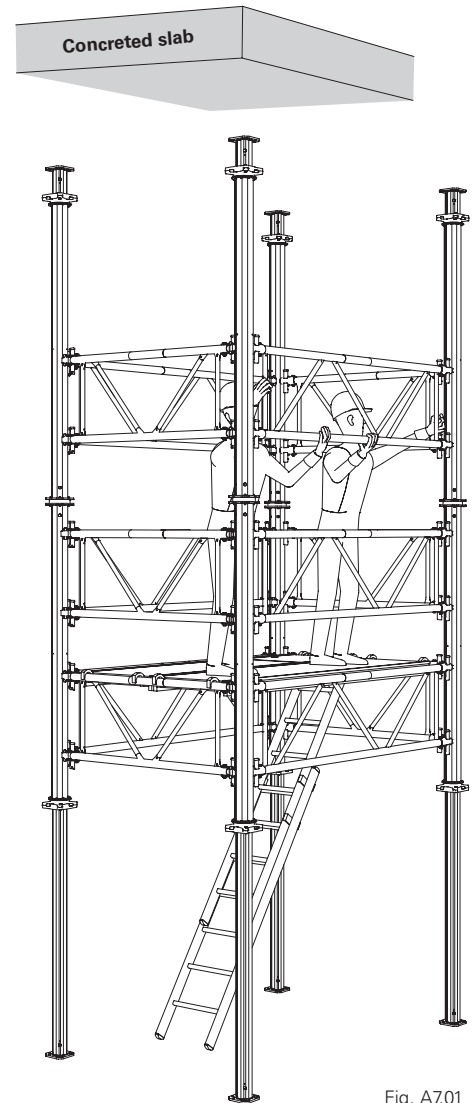

Fig. A7.01
5. Dismantle tower from top to bottom. Remove horizontal assembly bracing only when stability has been ensured. (Fig. A7.01)